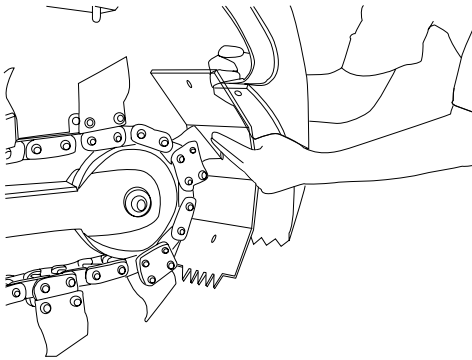

Figure 17
1. Remove the 3 nuts and bolts and the scraper shoe [Figure 17].
2. Replace the Scraper Shoe, install and tighten the bolts using hand tools [Figure 17].